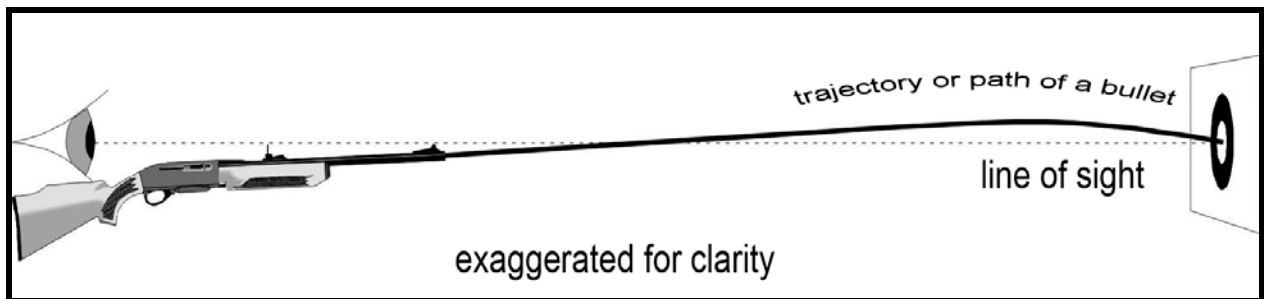

Figure 39. Trajectory of a bullet
- a. Is the path a discharged shot or bullet takes during flight (Figure 39). Several factors affect this path; examples include, but are not limited to, the following;